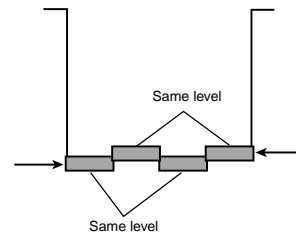

Figure 5. Sub Color
7. Set the data with numeric keys 2 - 7 for waveform shown in Figure 5.